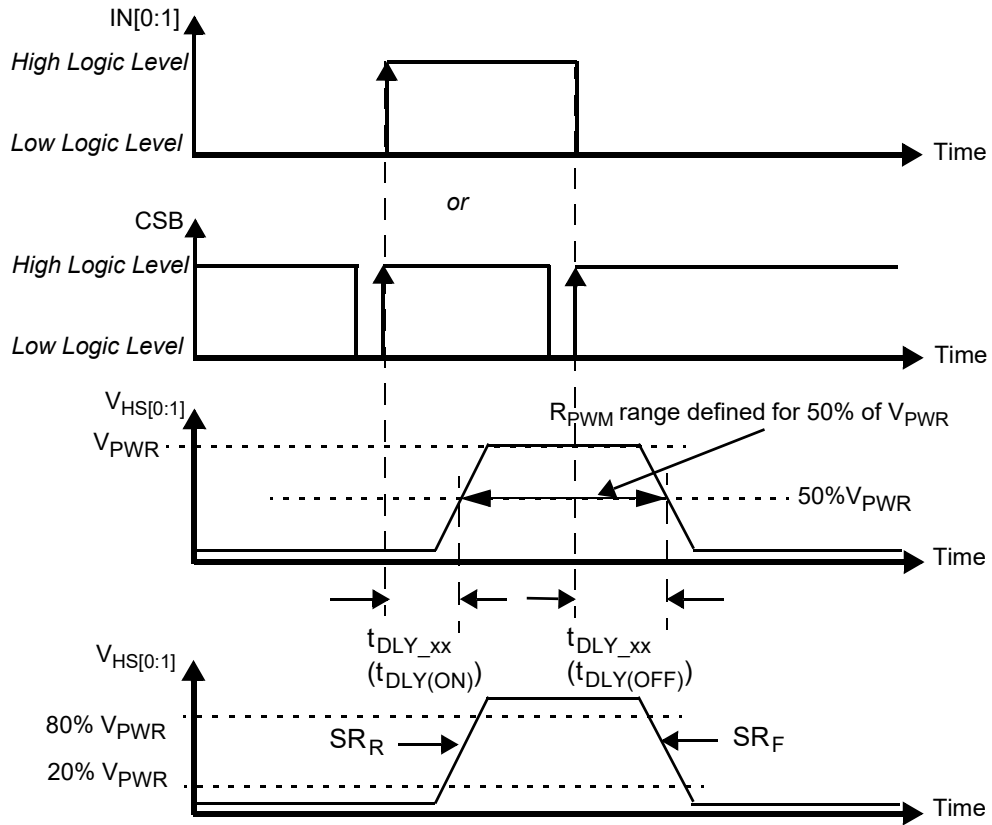
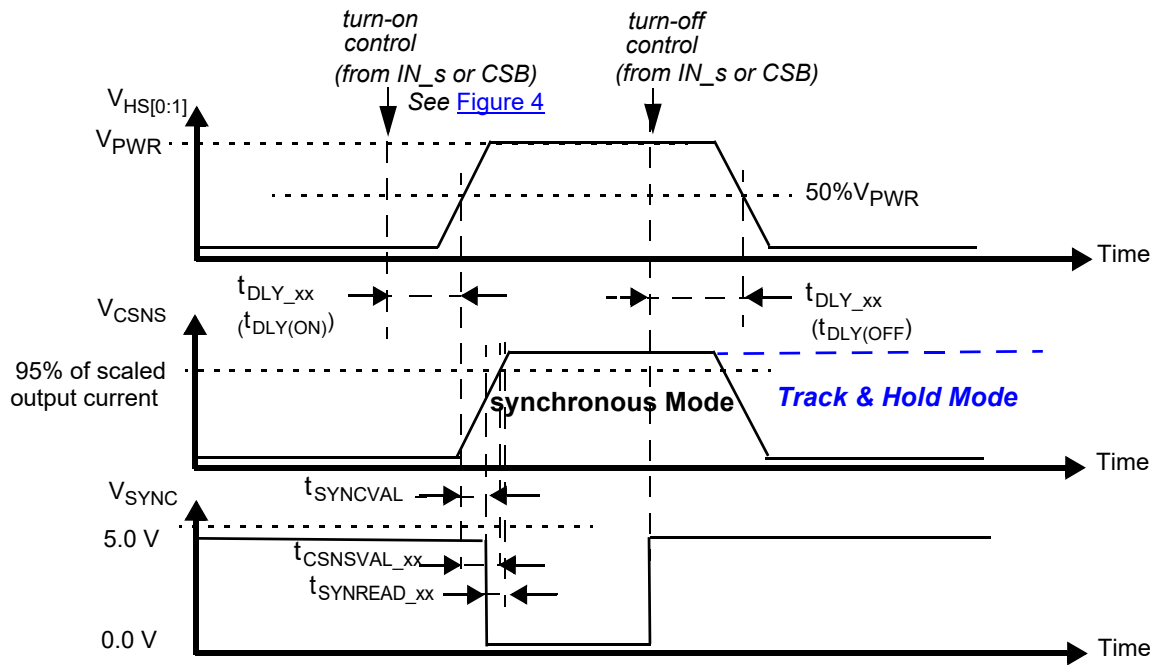

Figure 4. Output voltage slew rate and delay
Figure 9. Synchronous and Track & Hold current sensing modes: associated delay and settling times
30. Rising and Falling edge slew rates specified for a 20 to 80% voltage variation on a $10\ \Omega$ resistive load (see Figure 4).
32. Time required to switch off the channel after detection of overtemperature (OT), overcurrent (OC), SC or UV error (time measured between start of the negative edge on the FSB pin and the falling edge on the output voltage until $V(\text{HS}[0:1]) = 50\%$ of V_{PWR}).
33. Settling time ($= t_{\text{CSNSVAL_xx}}$), SYNC output signal delay ($= t_{\text{SYNCVAL_xx}}$) and Read-out delay ($= t_{\text{SYNREAD_xx}}$) are defined for a stepped load current ($100\text{ mA} < I(\text{LOAD}) < \text{IOCLX A FOR CSNS_RATIO_S} = 1$, AND $300\text{ mA} < I(\text{LOAD}) < \text{IOCLX A}_0$ FOR $\text{CSNS_RATIO_S} = 0$). (see Figure 9 and Output current monitoring \(CSNS\))
- Settling time ($= t_{\text{CSNSVAL_xx}}$), SYNC output signal delay ($= t_{\text{SYNCVAL_xx}}$) and Read-out delay ($= t_{\text{SYNREAD_xx}}$) are defined for a stepped load current ($100\text{ mA} < I(\text{LOAD}) < I_{\text{OCLX A FOR CSNS_RATIO_S}} = 1$, AND $300\text{ mA} < I(\text{LOAD}) < I_{\text{OCLX A_0 FOR CSNS_RATIO_S}} = 0$). (see Figure 9 and Output current monitoring \(CSNS\))
The CS pin allows independent current monitoring of channel 0 or channel 1 up to the steady-state overcurrent threshold. It can also be used to sense the device temperature. The different functions are selected by setting bits CSNS1_en and CSNS0_en to the appropriate value (Table 23). When the CSNS pin is sensed during switch-off in the (optional) track & hold mode (see Figure 9), it outputs the scaled value of the load current as it was just before turn-Off. When several devices share the same pull-down resistor, the CSNS pins of devices, the current of which is not monitored, must be tri-stated. This is accomplished by setting CSNS0_en = 0 and CSNS1_en = 0 in their GCR register (Table 12). Settling time ($t_{CSNSVAL_XX}$) is defined as the time between the instant at the middle of the output voltage’s rising edge ($HS[0:1] = 50\%$ of V_{PWR}), and the instant at which the voltage on the CSNS pin has settled to $\pm 5.0\%$ of its final value. Anytime an overcurrent window is active, the CSNS pin is disabled (see Overcurrent detection on resistive and inductive loads). The current and temperature sensing functions are unavailable in Fail-safe mode and in Normal mode when operating without the V_{DD} supply voltage. In order to generate a voltage output, this pin requires a pull-down resistor ($R(CSNS)=1.0\text{ k}\Omega$ typ. and $470 < R(CSNS) < 10\text{ k}$). When the current sense resistor connected to the CSNS pin is disconnected, the CSNS voltage is clamped to $V_{CL(CSNS)}$. The CSNS pin can source currents up to about 5.6 mA.
To synchronize current sensing with an external process, the SYNC signal can be connected to a digital input of an external MCU. An open-drain pull-down on SYNC indicates that the current sense signal is accurate and ready to be read. The current sense signal on the CSNS pin has the specified accuracy $t_{SYNCREAD_XX}$ seconds after the falling edge on the SYNC pin (Figure 9) and remains valid until a rising edge is generated. The rising edge that is generated by the SYNC pin at the turn-OFF instant (internal or external) may also be used to implement synchronization with the external MCU. Parameter $t_{SYNCVAL_XX}$ is defined as the time between the instant at the middle of the output voltage rising edge ($HS[0:1] = 50\%$ of V_{PWR}), and the instant at which the voltage on the SYNC-pin drops below 0.4 V (V_{SOL}). The SYNC pins of different devices can be connected together to save micro-controller input channels. However, in this configuration, the CSNS of only one device should be active at a time. Otherwise, the MCU is not be able to determine the source of the SYNC signal. The SYNC pin requires an external pull-up resistor to V_{DD} .